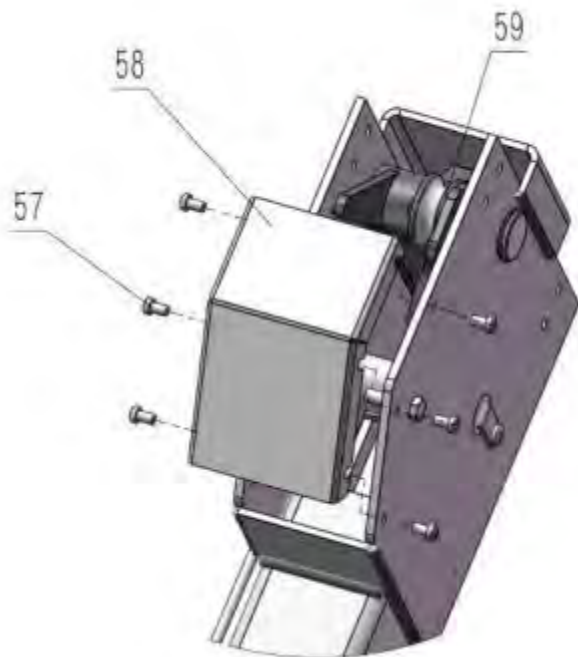

Fig. 27
N.Install spring and beam safety cover of cross beam (See fig .27 ).